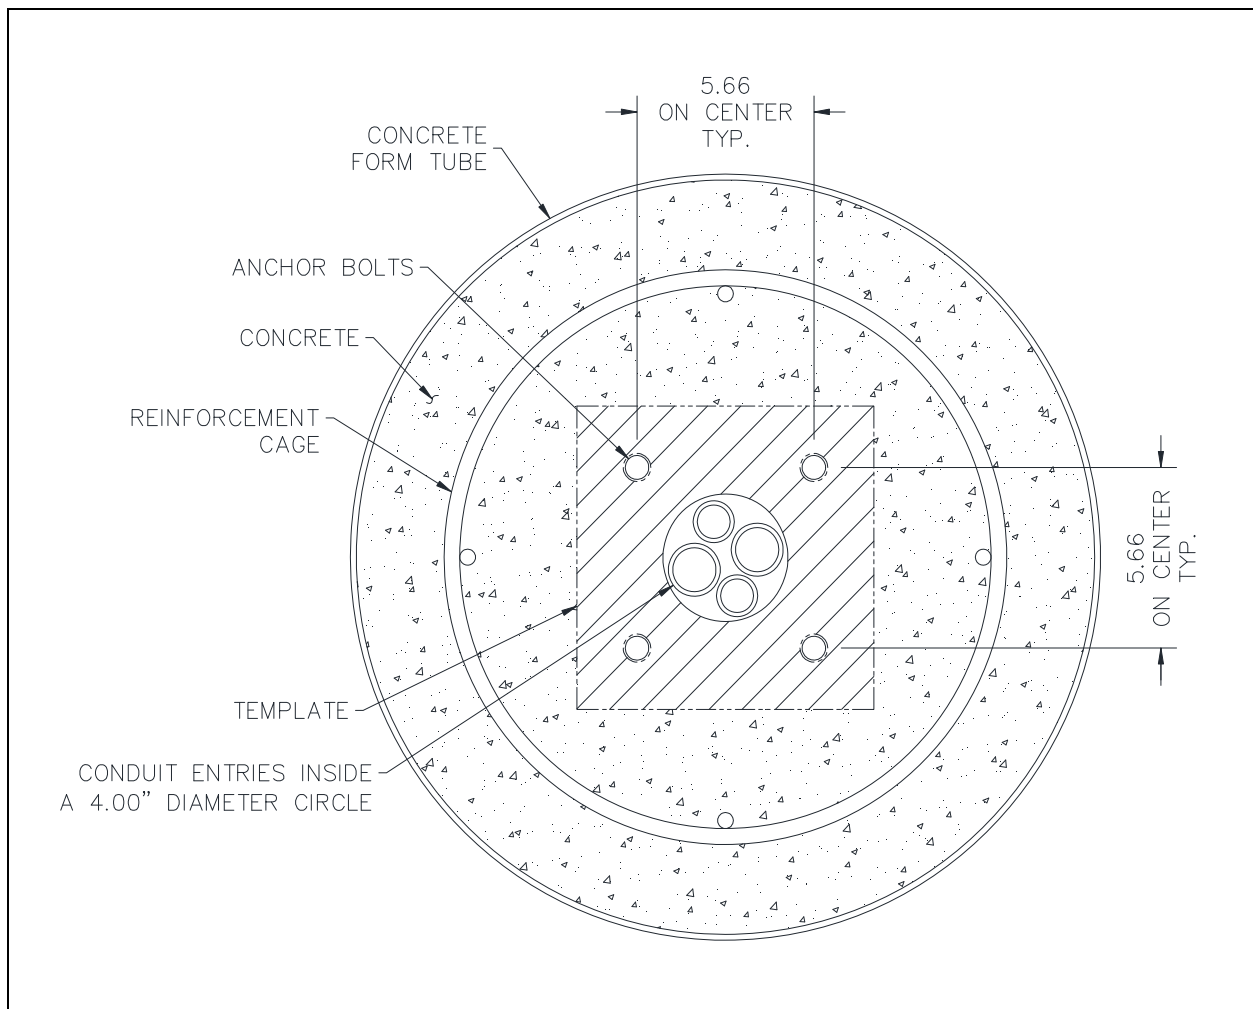

Figure 4. Anchor Bolt Location—Pier Top View
2. Use the template provided in the hardware kit to position the anchor bolts at the correct height and in the proper locations (see Figure 4).